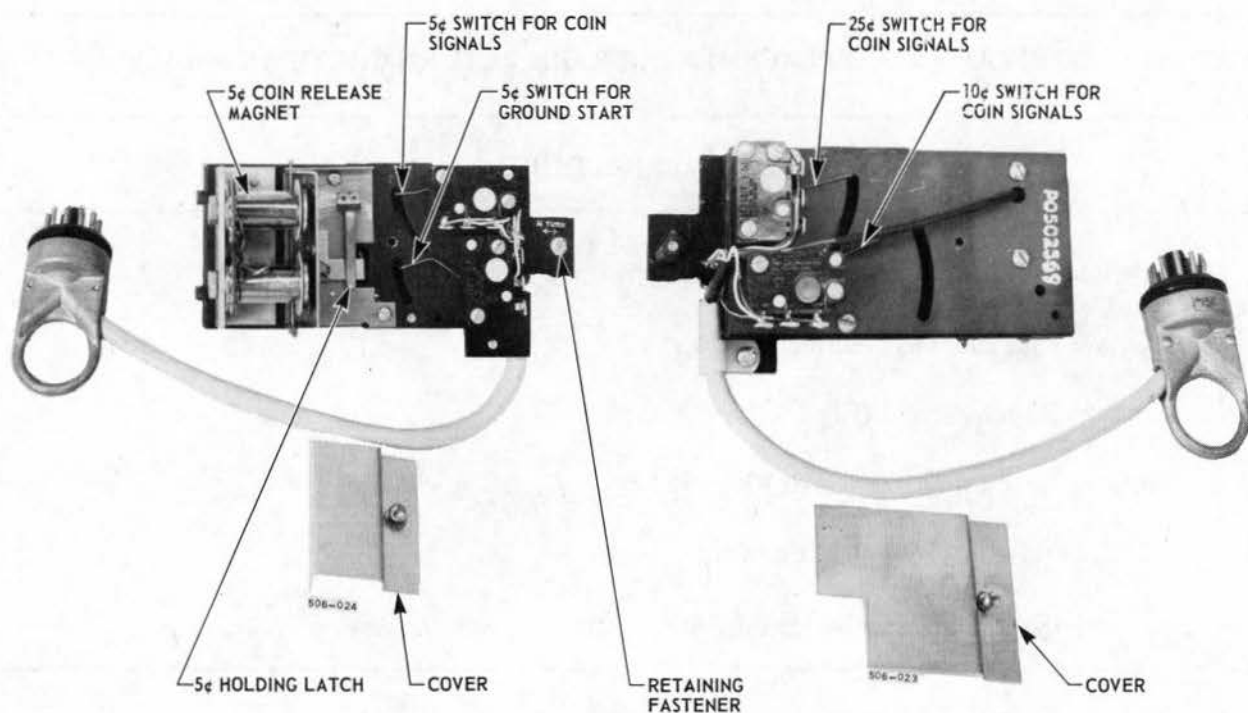

Fig. 8 — Coin Switch Module
**CHART 19 – REMOVAL AND REPLACEMENT OF THE COIN SWITCH MODULE (FIG. 8)**